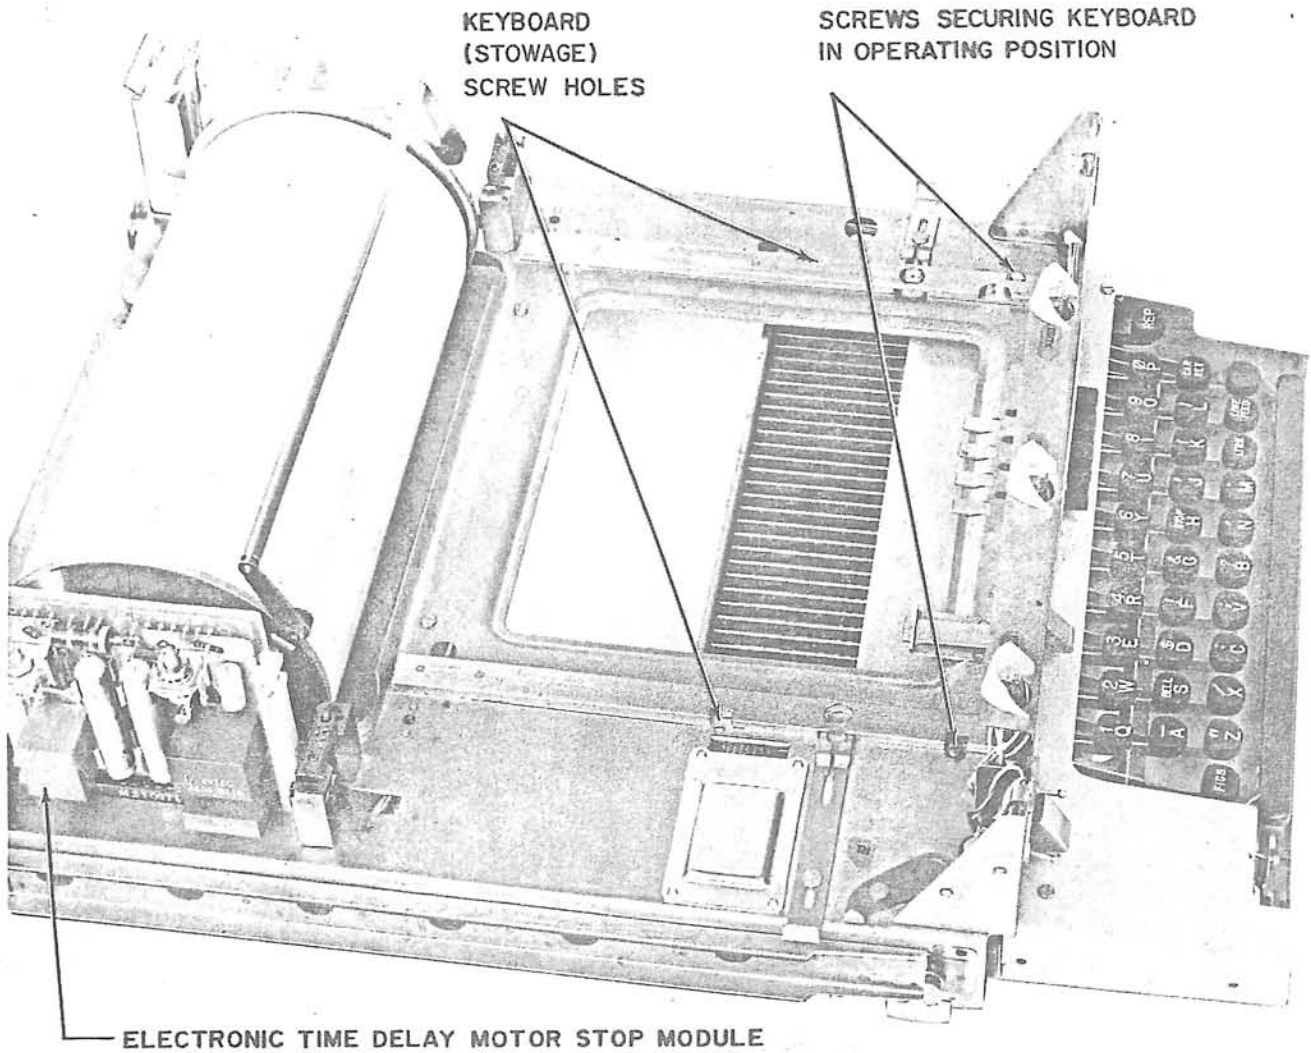

Figure 2-2. Left Side View of Chassis Electrical Equipment CH-561/UG
Step 12. Remove two screws which secure keyboard in stowage position within electrical chassis (Figure 2-2).
Step 14. Secure keyboard in operating position with two screws removed in Step 12. Screws are inserted through forward holes in chassis stiffener notches (see Figure 2-2).